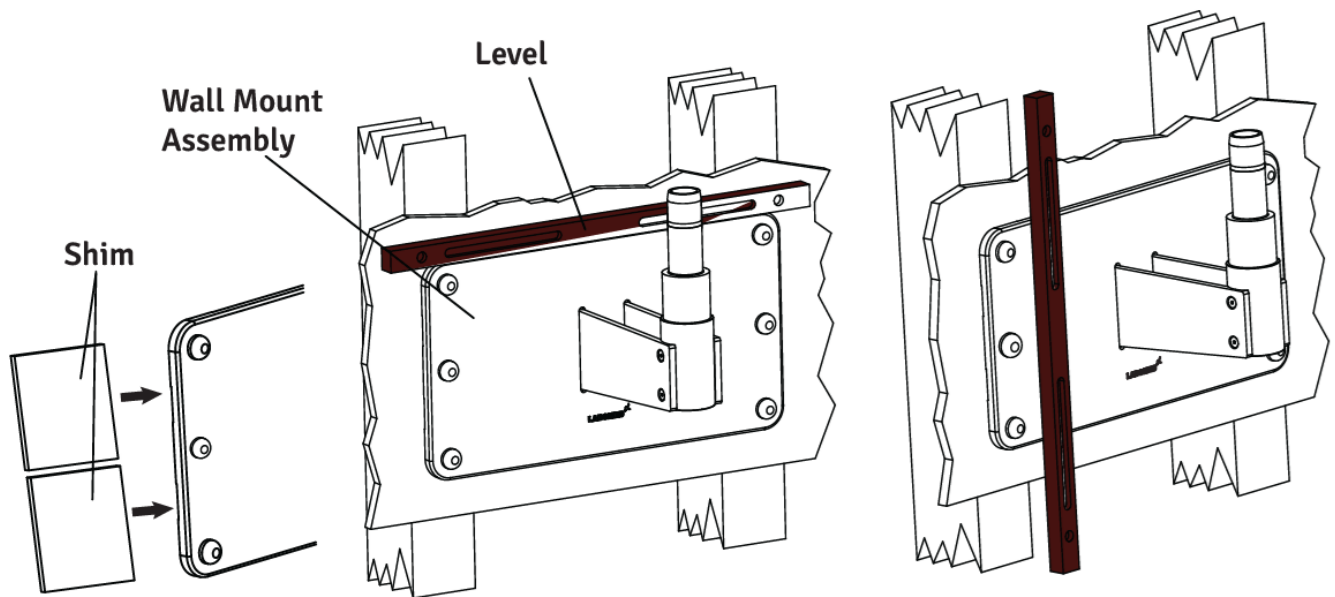

Fig. 22
2. Place a level across the top of the back plate to check the horizontal levelling. See Figure 22.
5. Place a level vertically along the face of the wall Mount, on both sides, to ensure it is perpendicular to the floor. See Figure 22.